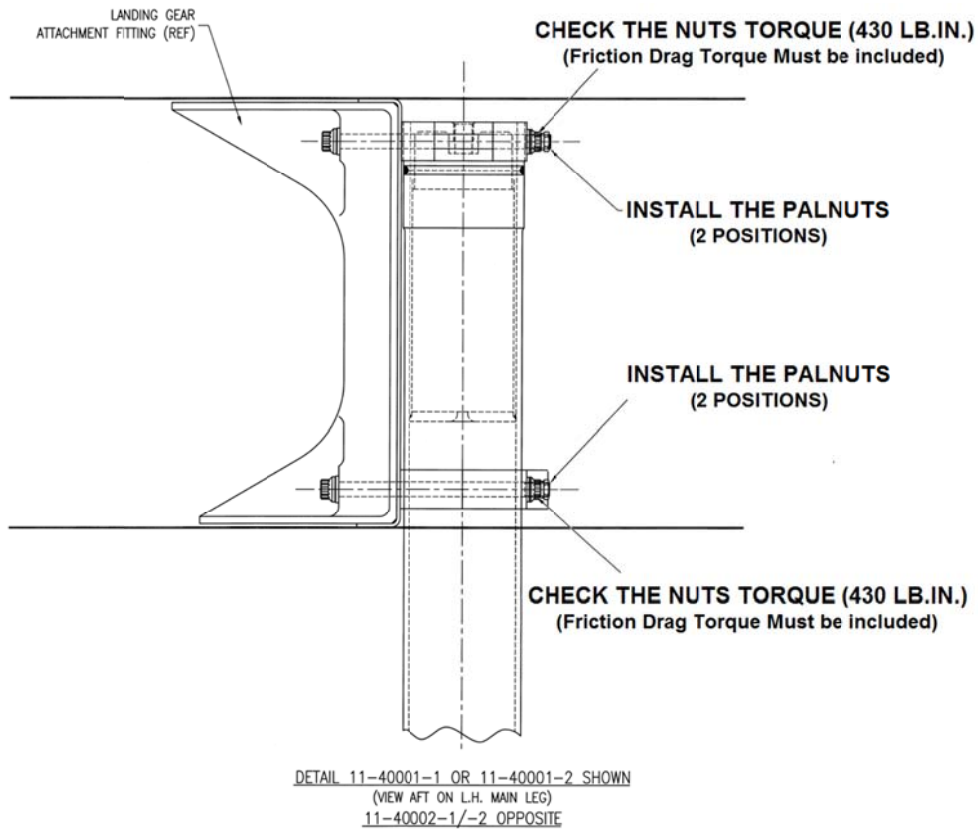

FIGURE 8 MAIN LANDING GEAR (SHORT RANGE WING – TORQUE CHECK AND PALNUTS INSTALLATION)
- 5) Hold the upper attachment bolts of the Main Landing Gear and check the torque (See Figures 8 and 9).